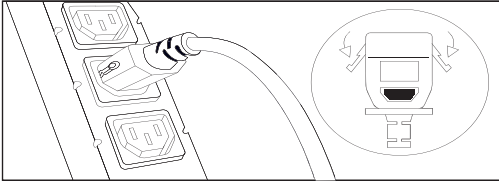

Figure 14: P-Lock Locking Power Cables
- Use a plug with locking tabs inserted into the receptacle, locking them together. One example is using P-Lock locking power cables (see Figure 14).